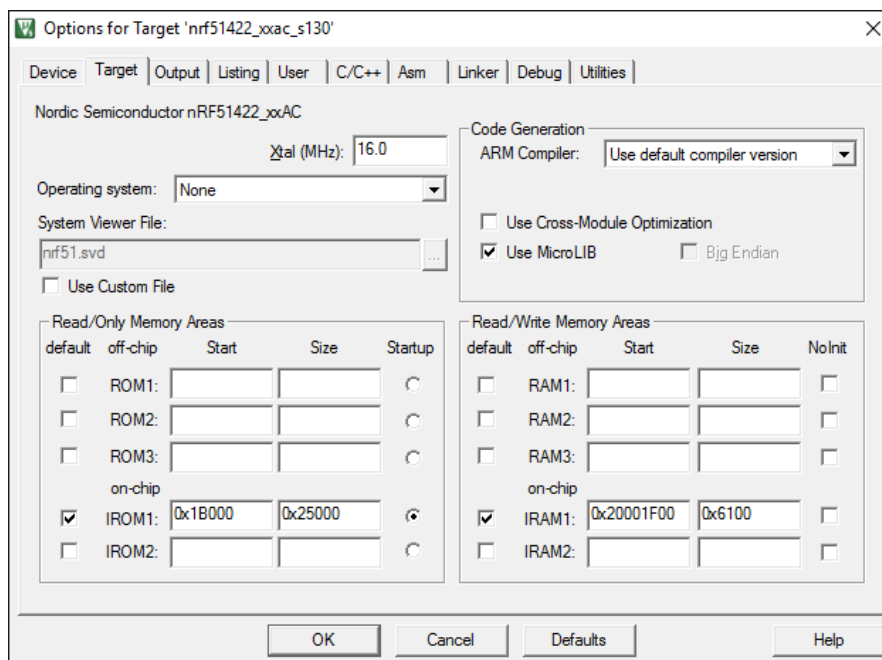

Figure 4 – Keil Flash Tools Target Window
6. After programming, nRFgo Studio should look similar to Figure 4.
Note: The memory locations in Figure 4 are based on the size of the S130 SoftDevice v2.0.0. If a different SoftDevice is used, these values may need to be adjusted. The SoftDevice specification documents contain the ROM and RAM requirements of each SoftDevice, see Nordic’s website.